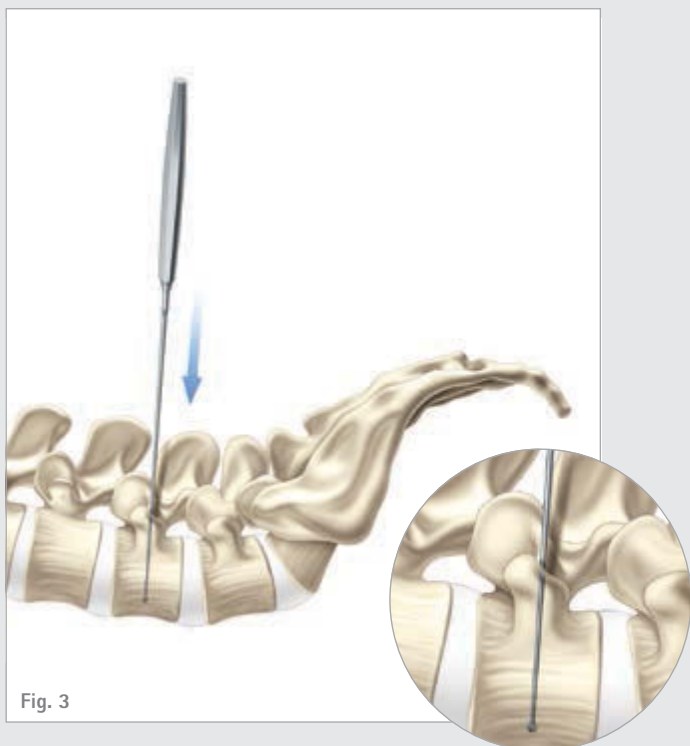

Fig. 3
- Utilize the straight or curved Pedicle Sounder (FW146R or FW147R) to confirm the patency of the pedicle and vertebral body cortex. (Fig. 3)